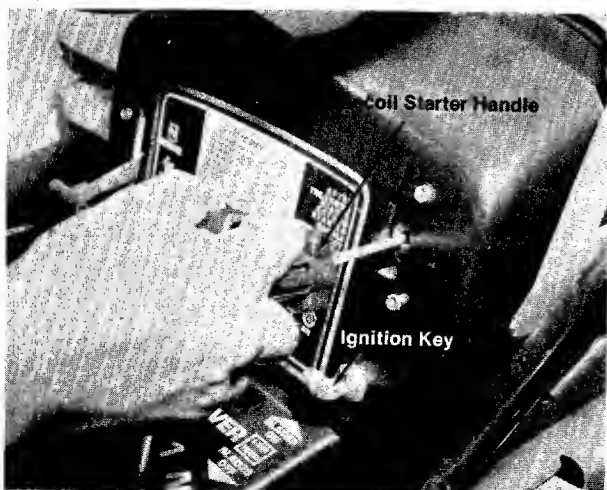

FIGURE 12. RECOIL STARTER
Recoil Model. The key must be turned to the ON position before you pull the recoil handle to start the engine. Remove the key when the mower is not in use. Turn the key to the left to the OFF POSITION TO STOP THE ENGINE. See figure 12.
The recoil starter handle is located on the right side of the dashboard. The recoil starter handle can either be pulled while seated on the rider or pulled while standing behind the rider. The ignition key must be on before the engine will start. After the engine starts, the recoil starter handle must be returned and locked into the dashboard before the blade or clutch are engaged. The engine will stop if you do not follow these instructions. See figure 12.
Step 5. **Recoil Model.** Turn the ignition key to the ON position, twist the recoil starter handle until it is free and pull it with a quick steady motion. After the engine starts, return the recoil starter handle and twist it until it locks. See figures 12 and 14.